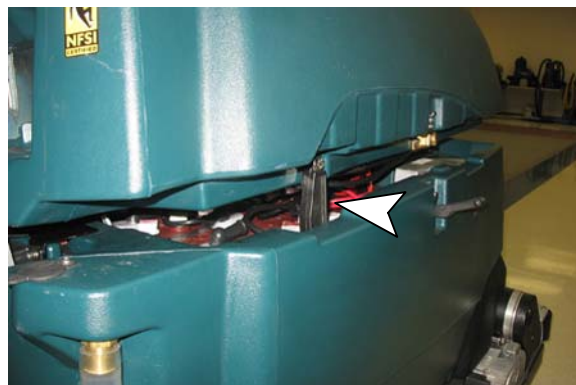

Fig. 17
4. Rest recovery tank on second support stand (Fig. 17).